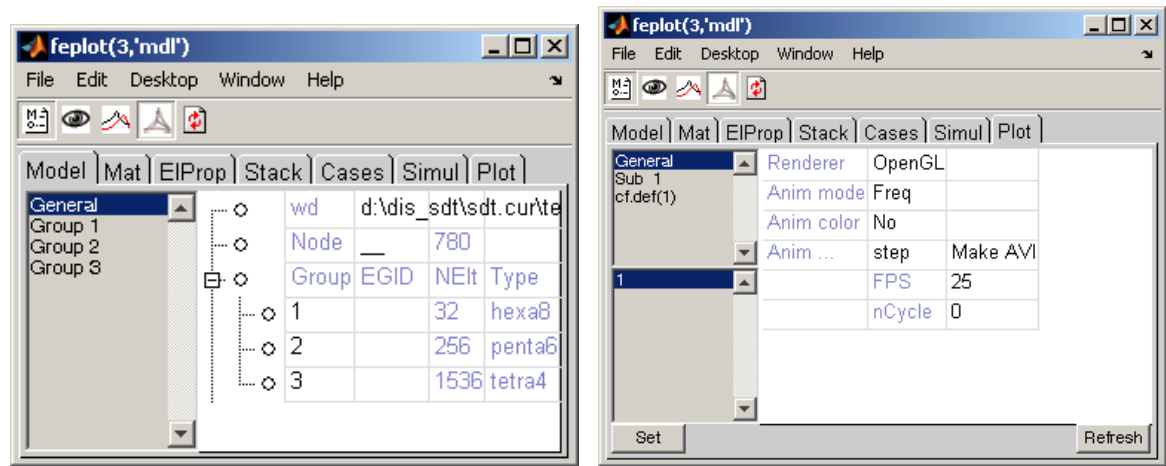

Figure 4.3: Model property interface.
- **Model** tab gives general information on the model nodes and elements. You can declare those by hand as shown in section 4.1.1 , through structured mesh manipulations with `feutil` see section 4.3 , or through import see section 4.3.2 . (see section 4.5 and Figure 4.3). You can visualize one or more groups by selecting them in the left group list of this tab.